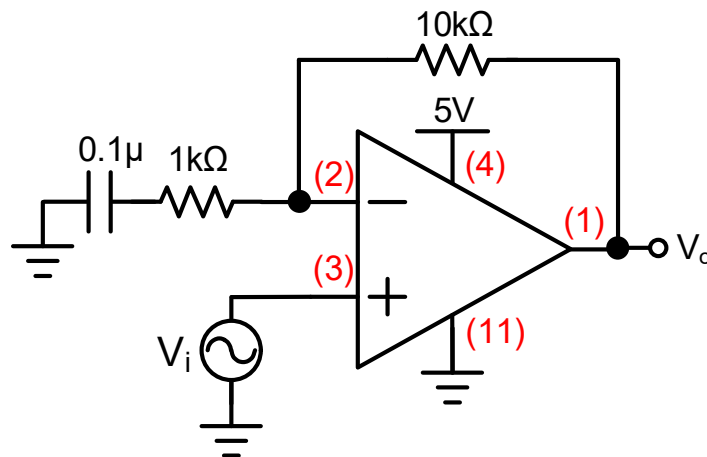

Fig. 3.10 Non-inverting OPAMP
- (1) Assemble the circuit as shown in Fig. 3.10.
- (2) Use $R_1=1k\Omega$, $R_2=10k\Omega$.
- (3) Measure the voltage of pin 1, 2, 3, 4, 11, and record down the values in Table 3.5.
- (4) Provide the small signal sine wave v_i with $200mV_{p-p}$, 1kHz with 2.5V offset as input by using function generator.
- (5) Record the voltage gain $A_v=V_o/V_i$ (V/V) by observing the differentiation of input and output voltage value in Table 3.6.
- (6) Change the frequency of input signal, and repeat step (4).